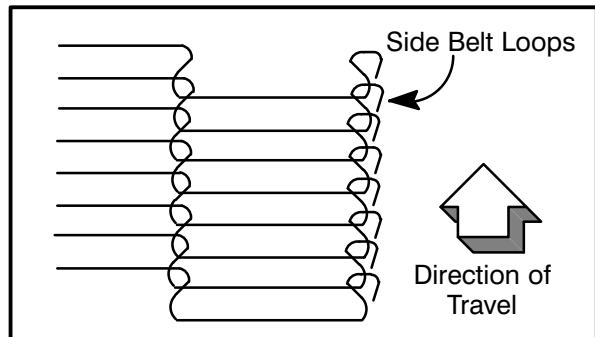

FIGURE 2
*NOTE: The conveyor belt has loops on all four sides. The belt must be installed so the loops travel as shown in FIGURE 2.*